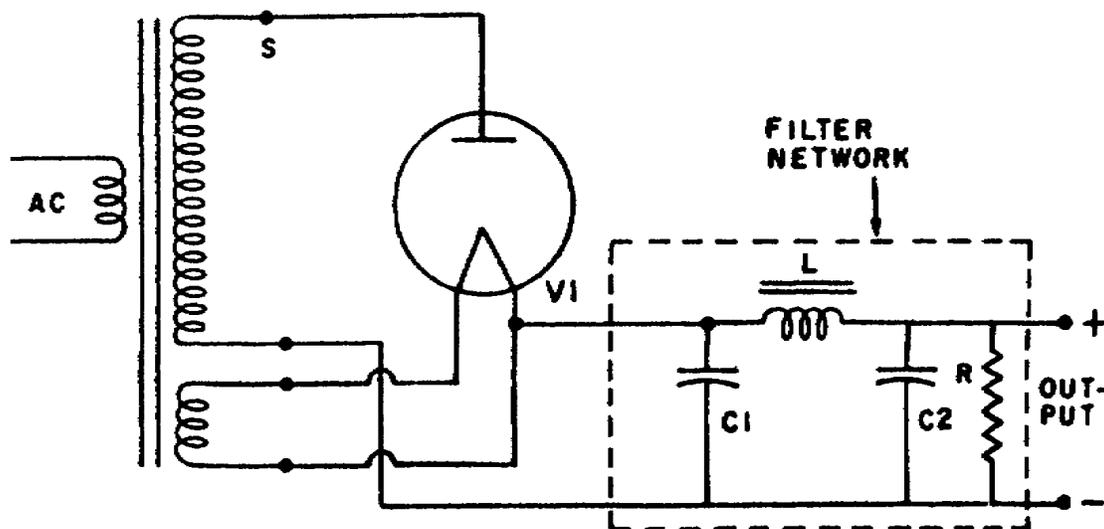

Figure 91. Filter network added to a half-wave rectifier.
13. Look at the complete electrical circuit of figure 91. Filtering is accomplished by connecting capacitors, choke coils (inductors), and resistors in the proper manner. If a filter network is added to the half-wave rectifier, a satisfactory degree of filtering can be obtained. Capacitors  $C_1$  and  $C_2$  have a small reactance at the a.c. frequency, and they are connected across the load resistor,  $R$ . These capacitors will become charged during the positive half-cycles as voltage is applied across the load resistor. The capacitors will discharge through  $R$  and  $L$  during the negative half-cycles, when the tube is not conducting, thus tending to smooth out, or filter out, the